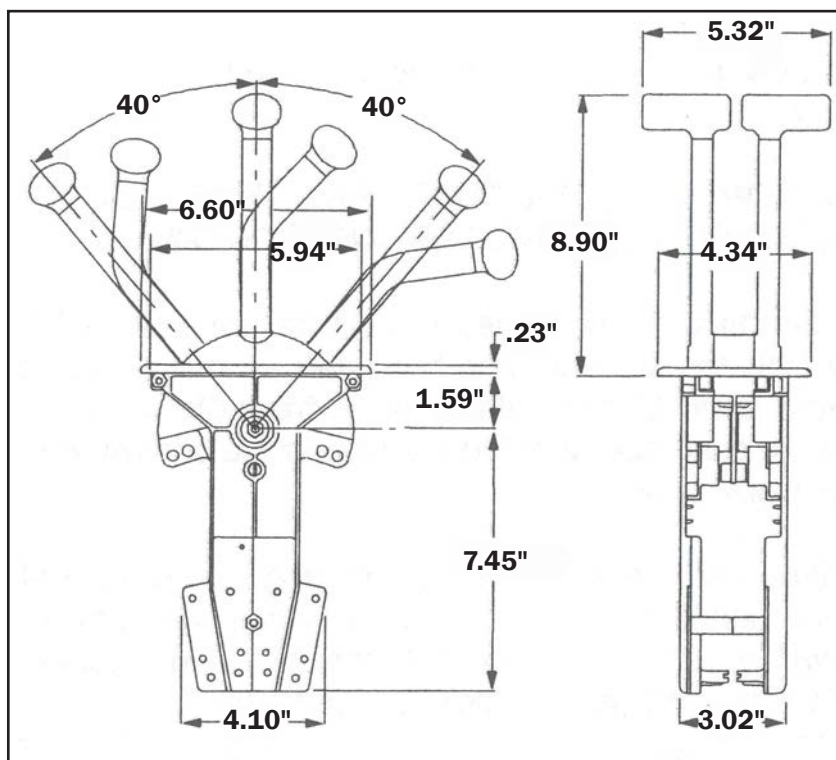

Figure 1.
**STEP 1.** Select a location which allows convenience of operation and full travel of control handles in both directions. Ensure that handles clear windshield, steering wheel and other equipment on the dashboard. Make sure that there is sufficient clearance under the mounting surface for the control body and cable routing. See Figure 1.